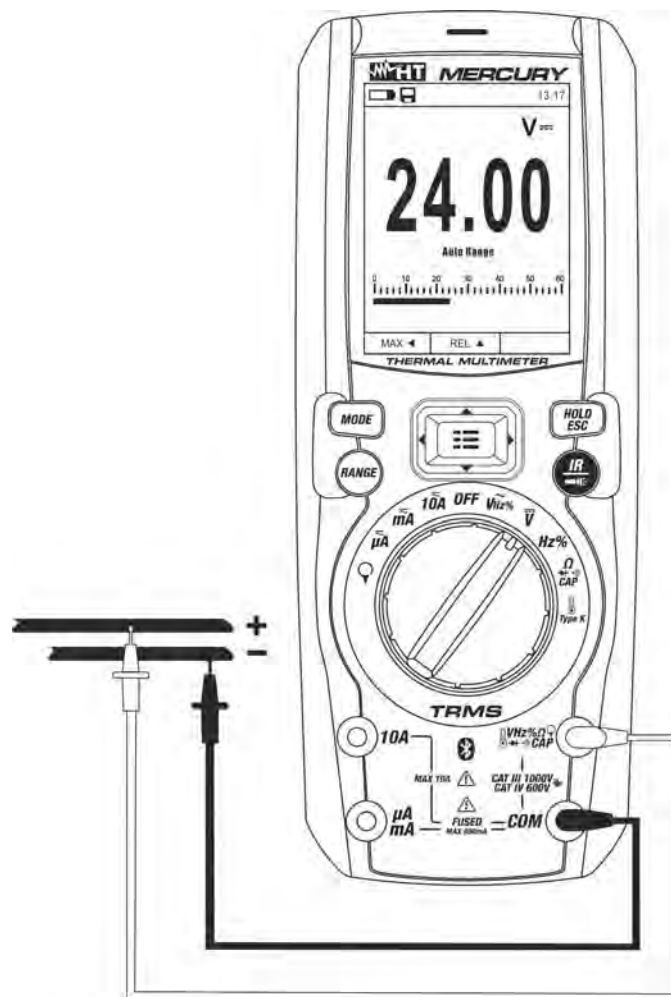

Fig. 21: Use of the instrument for DC, AC+DC voltage measurement
3. Position the red lead and the black lead respectively in the spots with positive and negative potential of the circuit to be measured (see Fig. 21). The display shows the value of voltage.
5. When symbol "-" appears on the instrument's display, it means that voltage has the opposite direction with respect to the connection in Fig. 21.